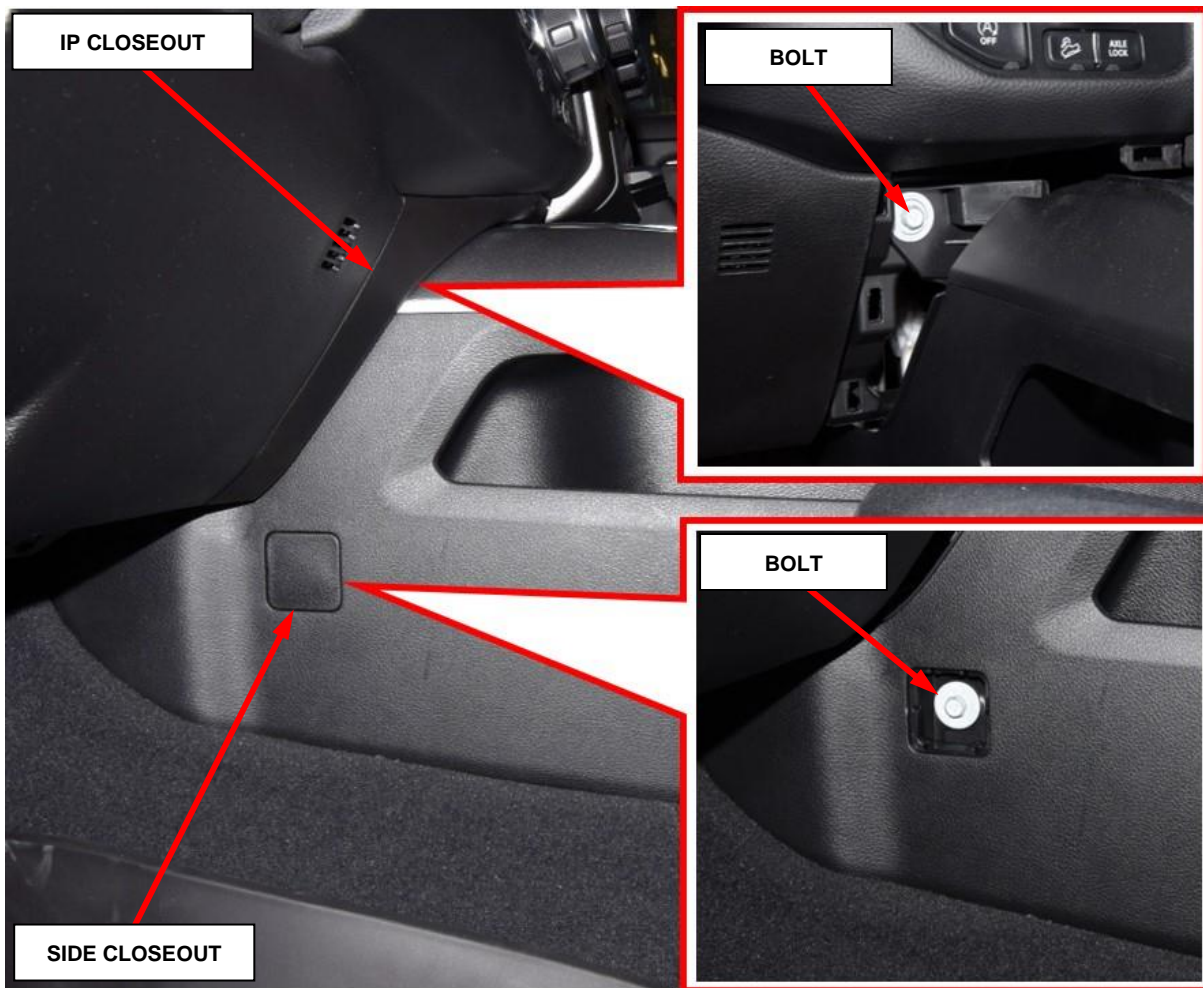

Figure 3 – Floor Console Closeouts and Fasteners Front
7. Remove the Instrument Panel (IP) closeouts on both sides of the floor console (Figure 3).
8. Remove the bolts from the floor console to IP on both sides of the floor console (Figure 3).
9. Remove the side closeouts on both sides of the floor console (Figure 3).
10. Remove the front bolts on both sides of the floor console (Figure 3).
26. Install the front bolts on both sides of the floor console and tighten to 5 N·m (44 In. lbs.) (Figure 3).
27. Install the closeouts on both sides of floor console (Figure 3).
28. Install the floor console to IP bolts on both sides of the floor console and tighten to 5 N·m (44 In. lbs.) (Figure 3).
29. Install the IP closeouts on both sides of the floor console (Figure 3).